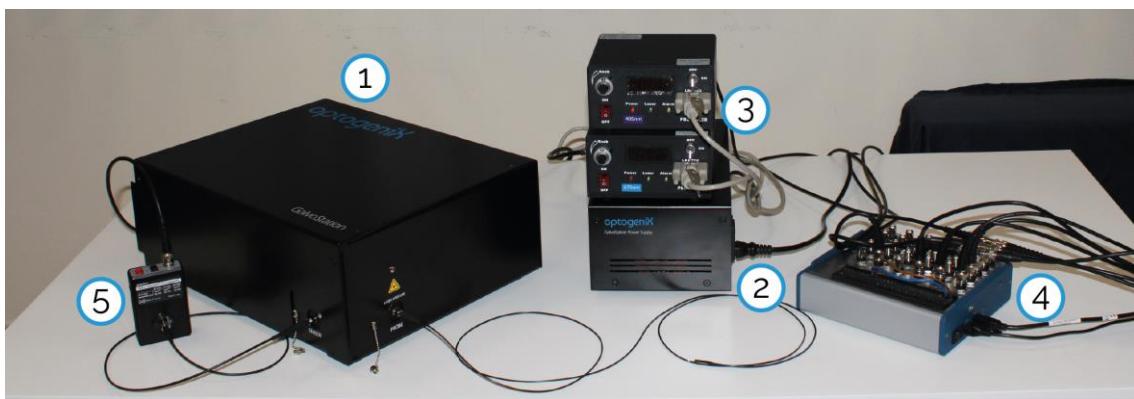

Figure 3. Overview of the GalvoStation system.
The complete GalvoStation system, shown in Figure 3, consists of the GalvoStation (1), its power supply (2), two laser drivers (3), a DAQ board (4), and a photodetector (5).⁷ A set of patch fibers and all the cables needed are supplied with the system, accordingly to the chosen configuration.